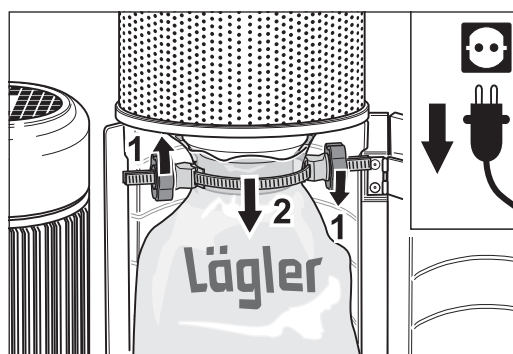

Fig. 46 Loosen the MultiClip by opening the nuts (1) and pull the dust bag and the MultiClip from the neck of the dust separator (2).
- Loosen the MultiClip by opening the nuts (fig. 46, 1).
- Carefully pull the full dust bag and the MultiClip from the neck of the dust separator (fig. 46, 2).